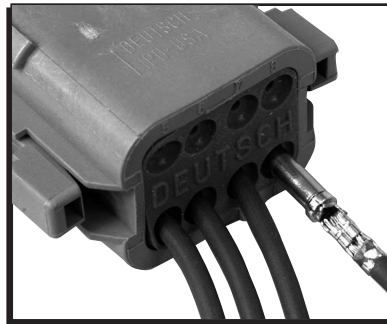

Figure 3 Installing the Terminal.
2. Insert each connector through the rubber grommet on the back side of the housing (Figure 3). Note that each terminal slot is numbered. Push the terminal in until it snaps into the housing and cannot be pulled out.